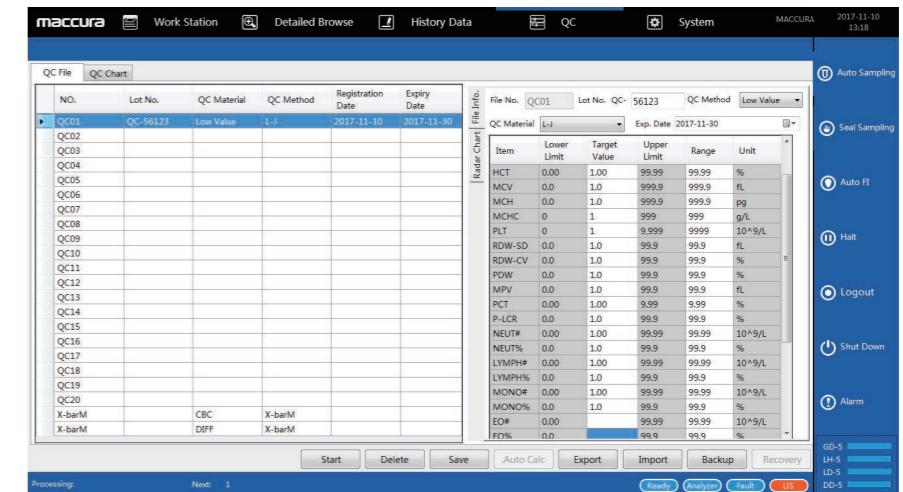

Figure 10.5.1-1
Click "QC" button in main manu and then access to QC document interface, as Figure 10.5.1-1 shows.
- Select a blank QC document, and then the corresponding document information will be indicated in right side of this interface, as Figure 10.5.1-2 shows.